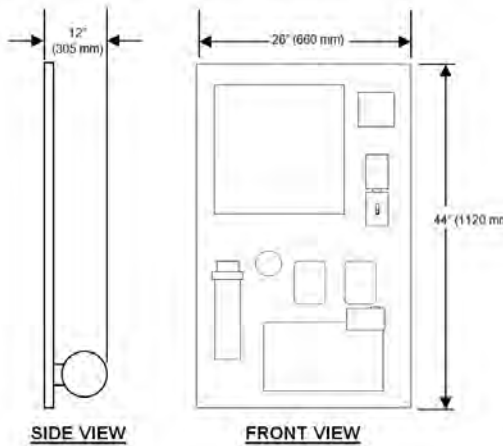

Figure 6 – Dimensions – **STANDPIPE-PAC™** Unit
3.3.1. Mounting. See Figure 6. Mount the **STANDPIPE-PAC™** in the chosen mounting location.